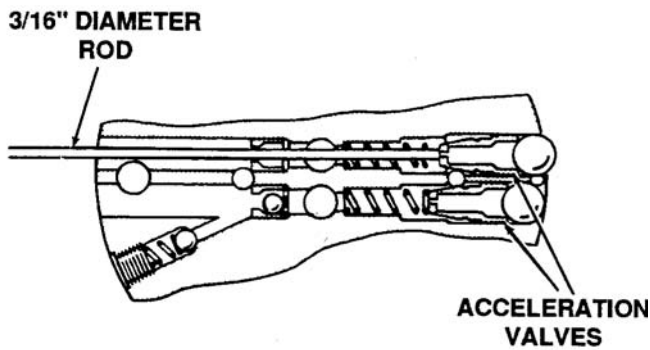

Figure 6-96. Removing Acceleration Valve Body
- o. Insert the rod through the check valve body against the acceleration valve body, and drive both the valve body and ball out of the bore. Repeat method for second valve body and ball. Remove springs. See Figure 6-96.